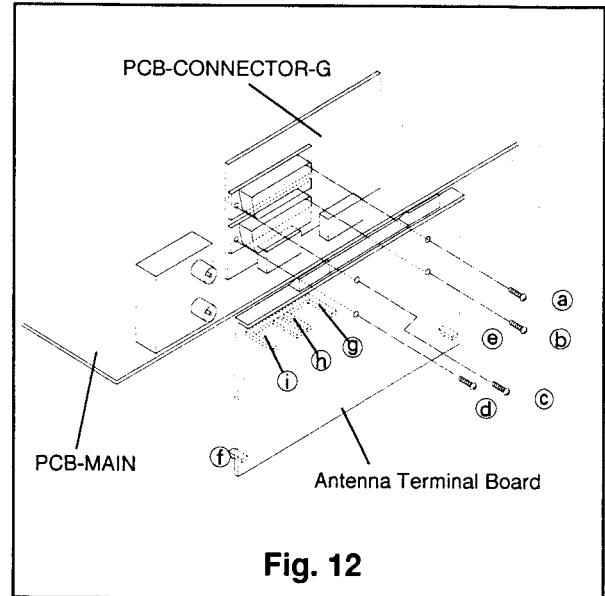

Fig. 12
- ② If it is necessary to remove the PCB-CONNECTOR-G, comply with the following steps.
- (1) Remove the PCB-MAIN referring to the preceding paragraph.
- (2) Remove four screws (a), (b), (c) and (d), unfasten five catches (e)~(i) on the Antenna Terminal Board as shown in Fig.12, and remove the Antenna Terminal Board.
- (3) Raise the PCB-CONNECTOR-G upward to remove it.